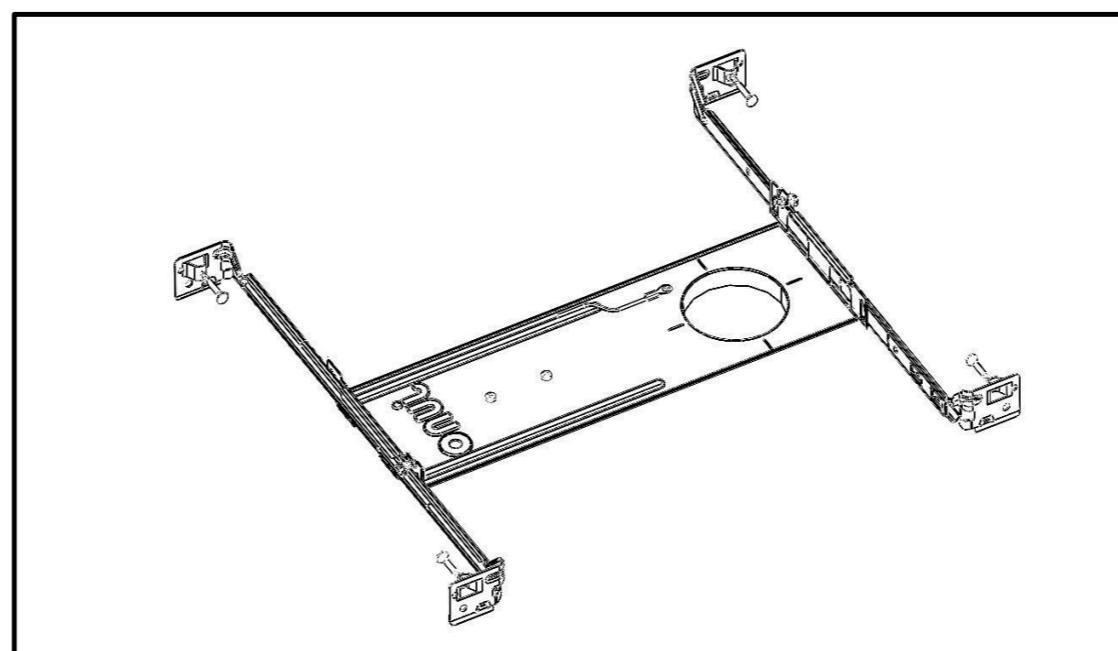

Figure 1
1. Before installation, check that the 2" new construction pan is complete and matches the overview illustration below. The use of a hole saw is recommended to make the precise cut required for this installation. Ceiling cutout is 2.5". (see Figure 1).